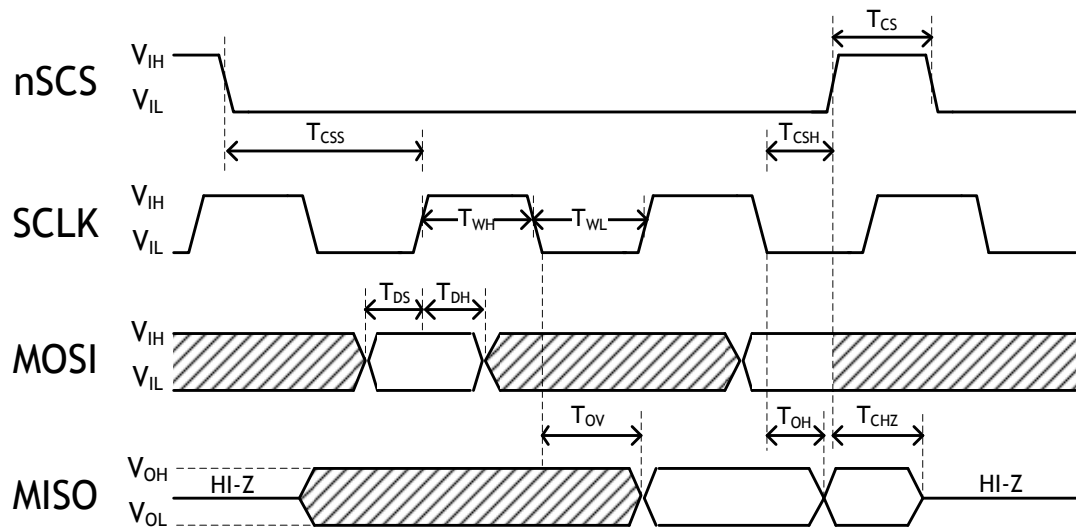

Figure 24 SPI Timing
9. Corrected “ Figure24 and Table at 7.4.3 SPI Timing”(P.80)